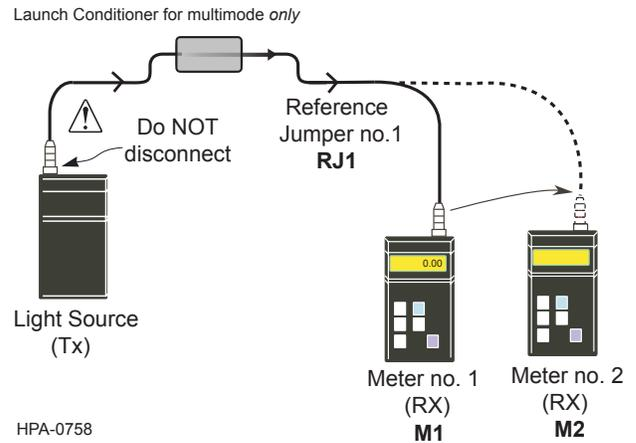

Figure 8
**Step 2:** Clean and insert the LC end of **RJ1** jumper into the LC port adapter of Meter no. 1 (**M1**) (Figure 8).